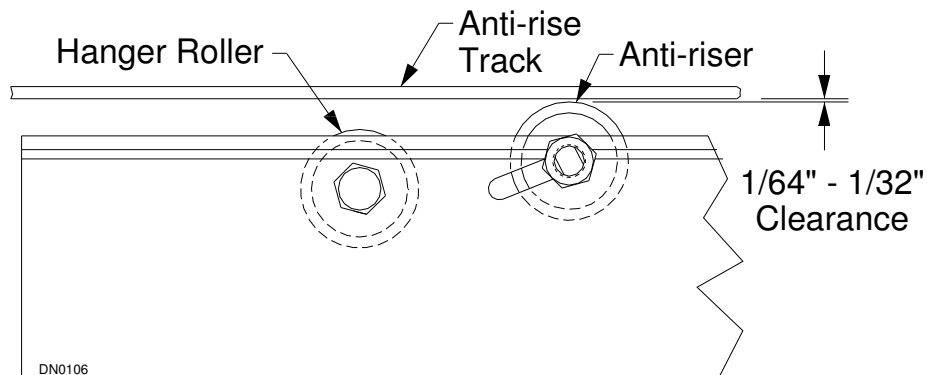

Figure 12
1. Loosen hanger roller (11/16" wrench) and anti-riser (15/16" wrench) nuts (See Figure 12).
5. Slide anti-risers up in slot until there is a 1/64 inch to 1/32 inch gap between anti-riser wheel and anti-riser track (See Figure 12). Tighten nut on anti-riser wheel.